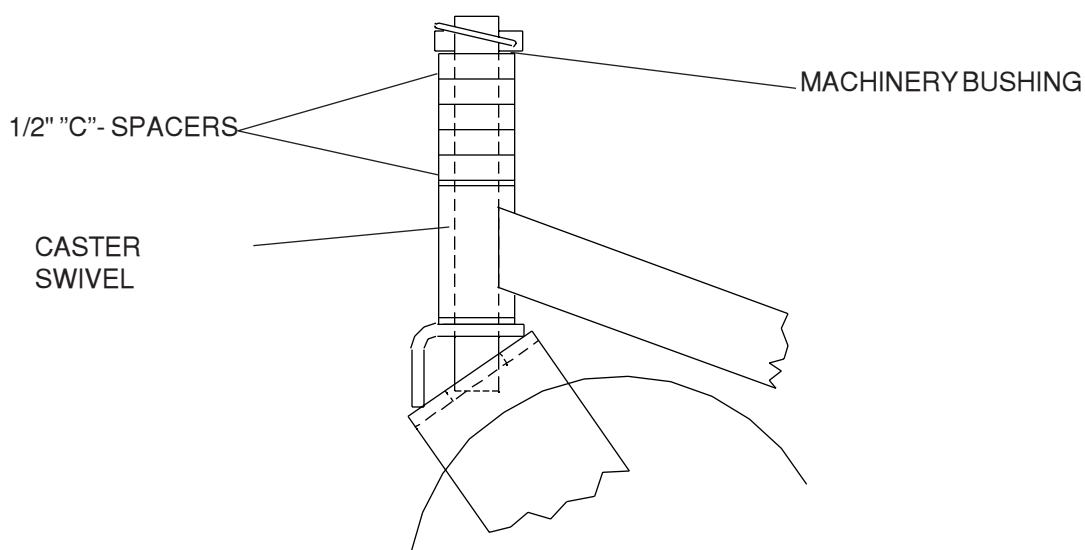

Figure 2
5. Using the chart(on page 7), find the correct number of spacers to be placed under the caster swivel.(see fig. 2)